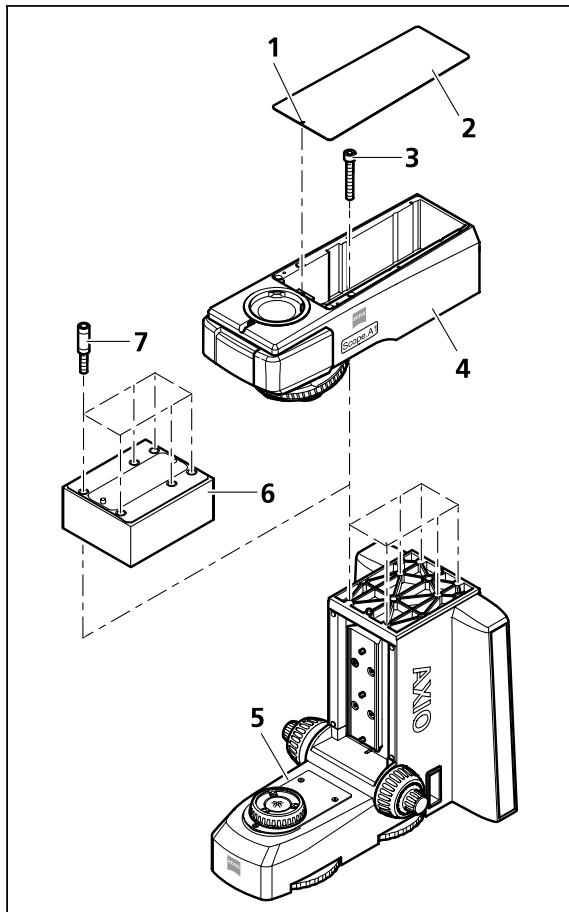

Fig. 3-39 Changing the upper stand part, inserting a centerpiece
- Remove the magnetically held cover (Fig. 3-39/2) of the upper stand part by inserting a screwdriver into the special front opening (Fig. 3-39/1). Then lift the cover.
- Hold the upper stand part (Fig. 3-39/4), unscrew the six hexagon socket screws (Fig. 3-39/3) with the ball head screwdriver SW 5 and remove the upper stand part.
- If you want to mount a centerpiece (Fig. 3-39/6), then proceed by screwing the appropriate spacers (Fig. 3-39/7) with the included key SW 8 into the lower stand part. Then mount the centerpiece 30 mm or 60 mm
- Mount the upper stand part to be mounted (Fig. 3-39/4) onto the lower stand part or the centerpiece, hold it and tighten the six hexagon socket screws (Fig. 3-39/3).